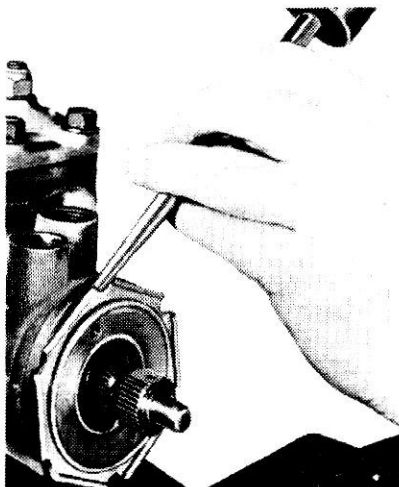

FIG. 3 Loosening Adjuster Plug Lock Nut
2. Loosen and remove the adjuster plug lock nut (see Figs. 3 and 4).
3. Loosen (but do not remove) the adjuster plug lock nut (see Fig. 3).